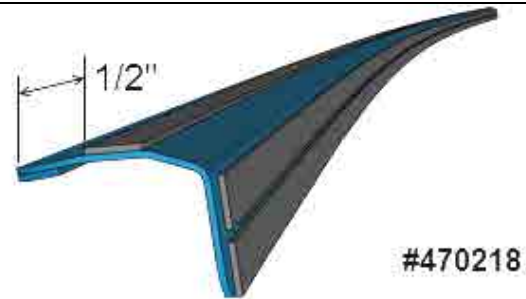

FIGURE 22
4. Apply three strips of double face self-adhesive tape along drip edge #470218 from one end up to the other end. The first strip should be placed about $\frac{1}{2}$ inch from the edge as shown on **FIGURE 22**. The two other strips should be placed on each side of the drilled holes.